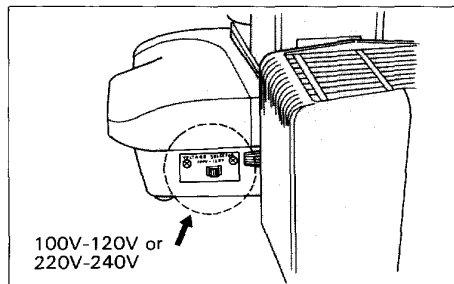

Fig. 2-1
① Check the Power Source Voltage and Fuse
- Make sure that the line voltage indication plate at the rear of the base indicates the correct line voltage to be used (100-120V or 220-240V) (Fig. 2-1).